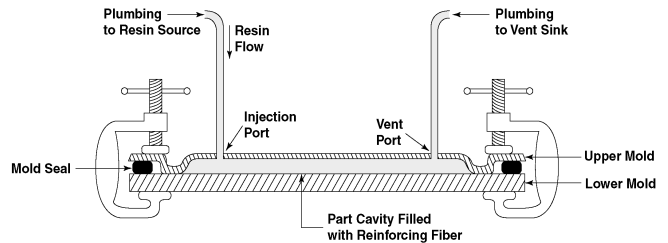

Figure 5/II.1—In a typical RTM process, resin is transferred to a mold cavity that contains dry fiber reinforcement.
- Resin Transfer Molding (RTM)—Resin Transfer Molding (RTM) processes are those in which liquid resin is transferred into a closed cavity mold. The reinforcing fiber, any embedded cores, and inserts are placed into the cavity before the resin is introduced. Over time, a number of RTM variations have been developed. Common examples are Conventional Resin Transfer Molding (CRTM), Vacuum Assisted Resin Transfer Molding (VARTM) and Vacuum Infusion (VI). Figure 5/II.1 illustrates schematically some features of a typical RTM process.